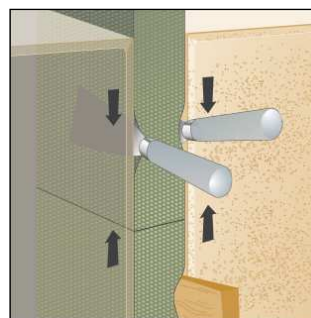
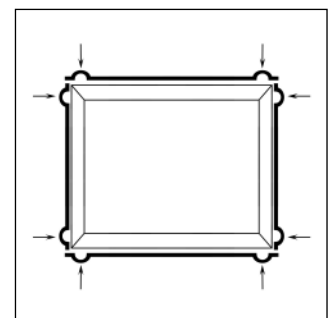

Fig 3 Compression of tape to make watertight butt joints
Fig 4 Tape application at corners (Note: oversize length 10 mm/m)
- If installing tape into a construction joint, it may be applied either horizontally or vertically (from bottom to top); however, when applying to a door or window frame the horizontal seals must be applied before the vertical ones (Fig 4). Tape must be applied with the adhesive side to the frame when working with fenestration but may be applied in any order when working with construction joints. In both cases, do not stretch the tape. When working in damp or cold conditions a wood wedge should be used to hold the tape in position until it is expanded (Fig 3). Ensure the tape is recessed by a minimum of 2 mm from the front of the joint.
- At the end of a roll, cut off the tape wedge finish. Repeat the process with a new roll, making a close compressed butt connection as shown in Fig 3.